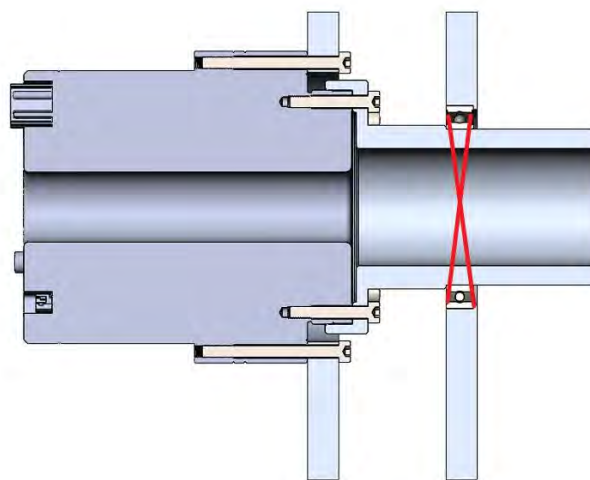

Figure 18-8 No External Bearings Required for eRob Module Installation
- (6) The installation of the eRob module does not require the addition of external bearings. As shown in Figure 18-8, the eRob module is equipped with integrated cross-roller bearings that can withstand both radial and axial loads. The load-bearing capacity of the eRob module should be checked according to Chapter 17. Adding external bearing support can lead to situations where the installation dimensions are exceeded, resulting in abnormal noises, vibrations, jitter, jamming, and bending of the eRob module.